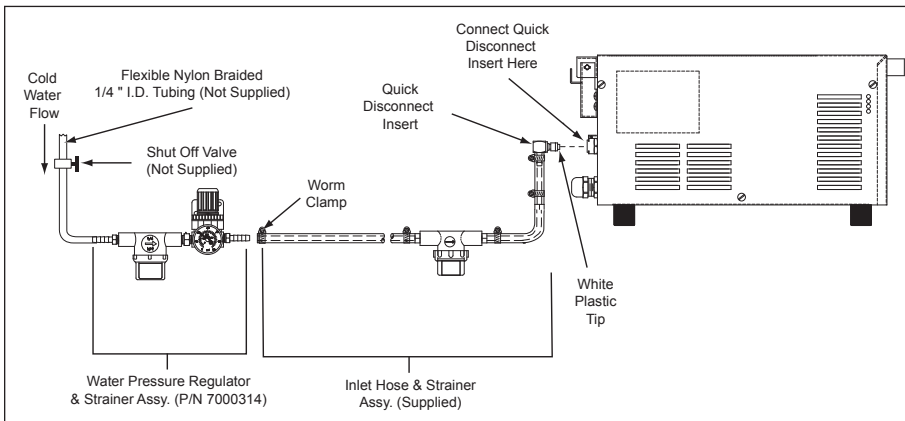

Figure 2. Connecting Water Supply to DFW-250
The DFW-250 models require a direct cold water hookup. A water inlet hose and strainer assembly (Figure 2) is supplied.
4. Over a bucket, press and hold the white plastic tip on the Quick Disconnect Insert (Figure 2) until a good, steady water flow is noted (this will purge all air out of the line).
7. Push the Quick Disconnect Insert into the fitting at the rear of the unit until it clicks (Figure 2).